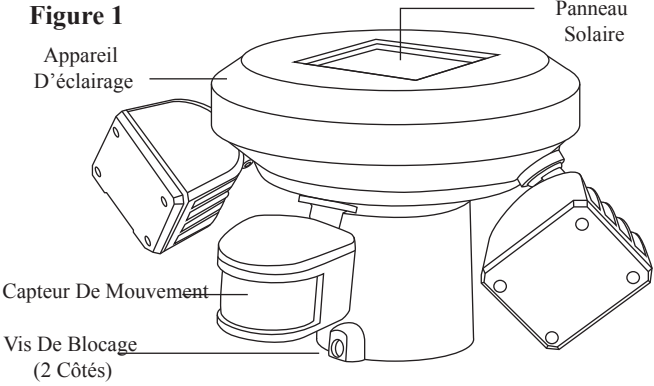

Figure 2
- Secure fixture to post or pier base by tightening (2) two set screws. Set screws are included.
**FIXTURE ADJUSTMENT – See Figure 2**
RÉGLAGE DE L'APPAREIL D'ÉCLAIRAGE – Voir Figure 2